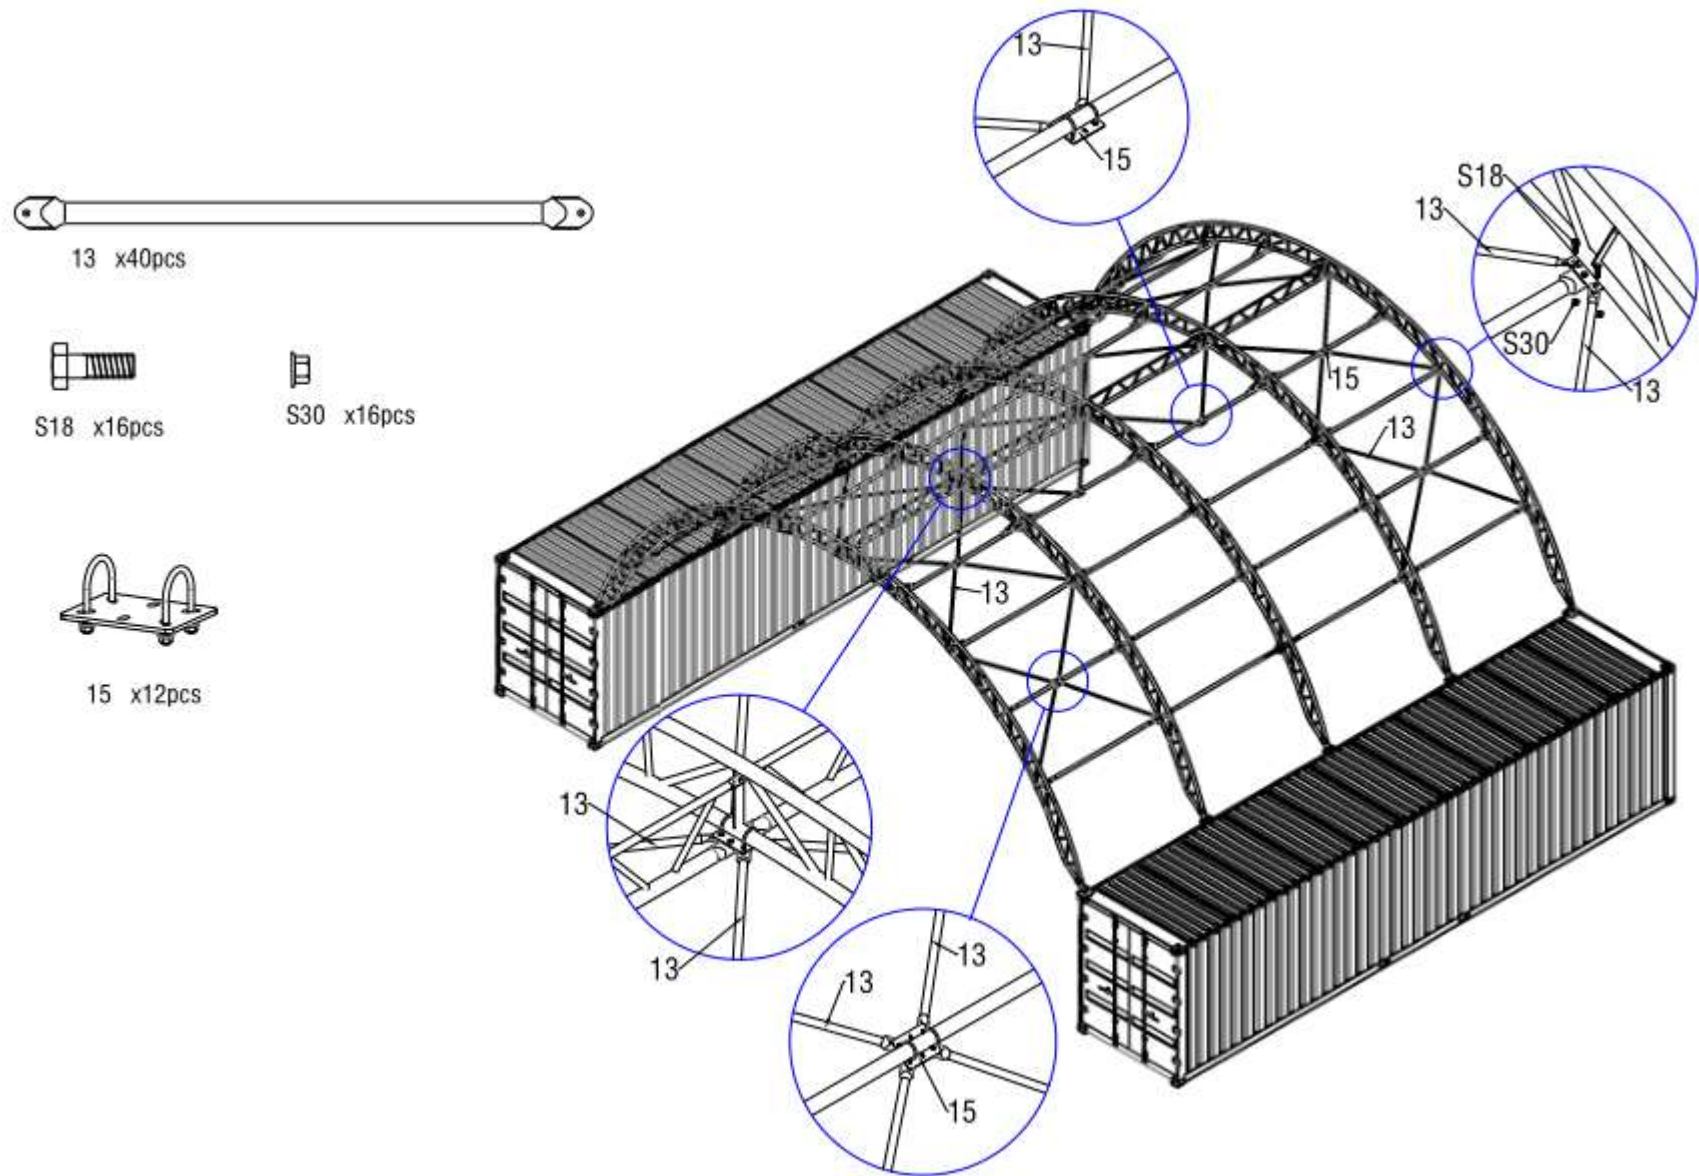

Figure 9
2.6.Then install the diagonal support tubes to the arches by using clips(Part no.15) as below Figure 9 shows. There are total two groups diagonal support tubes as the figure shows.